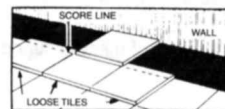

Figure 5 - Straight cuts.
• **Straight Cuts** - Place loose tiles directly over the top of the last full row of tile making sure all edges are lined up. Using a whole tile as a measuring device, position one edge against the wall and mark the loose tile with a pencil along the opposite edge (Figure 5).